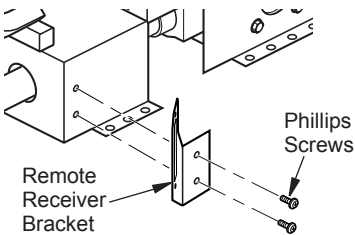

Figure 18 - Installing Remote Receiver Bracket
6. Install receiver bracket to base with philips screws provided in hardware kit as shown in Figure 18.